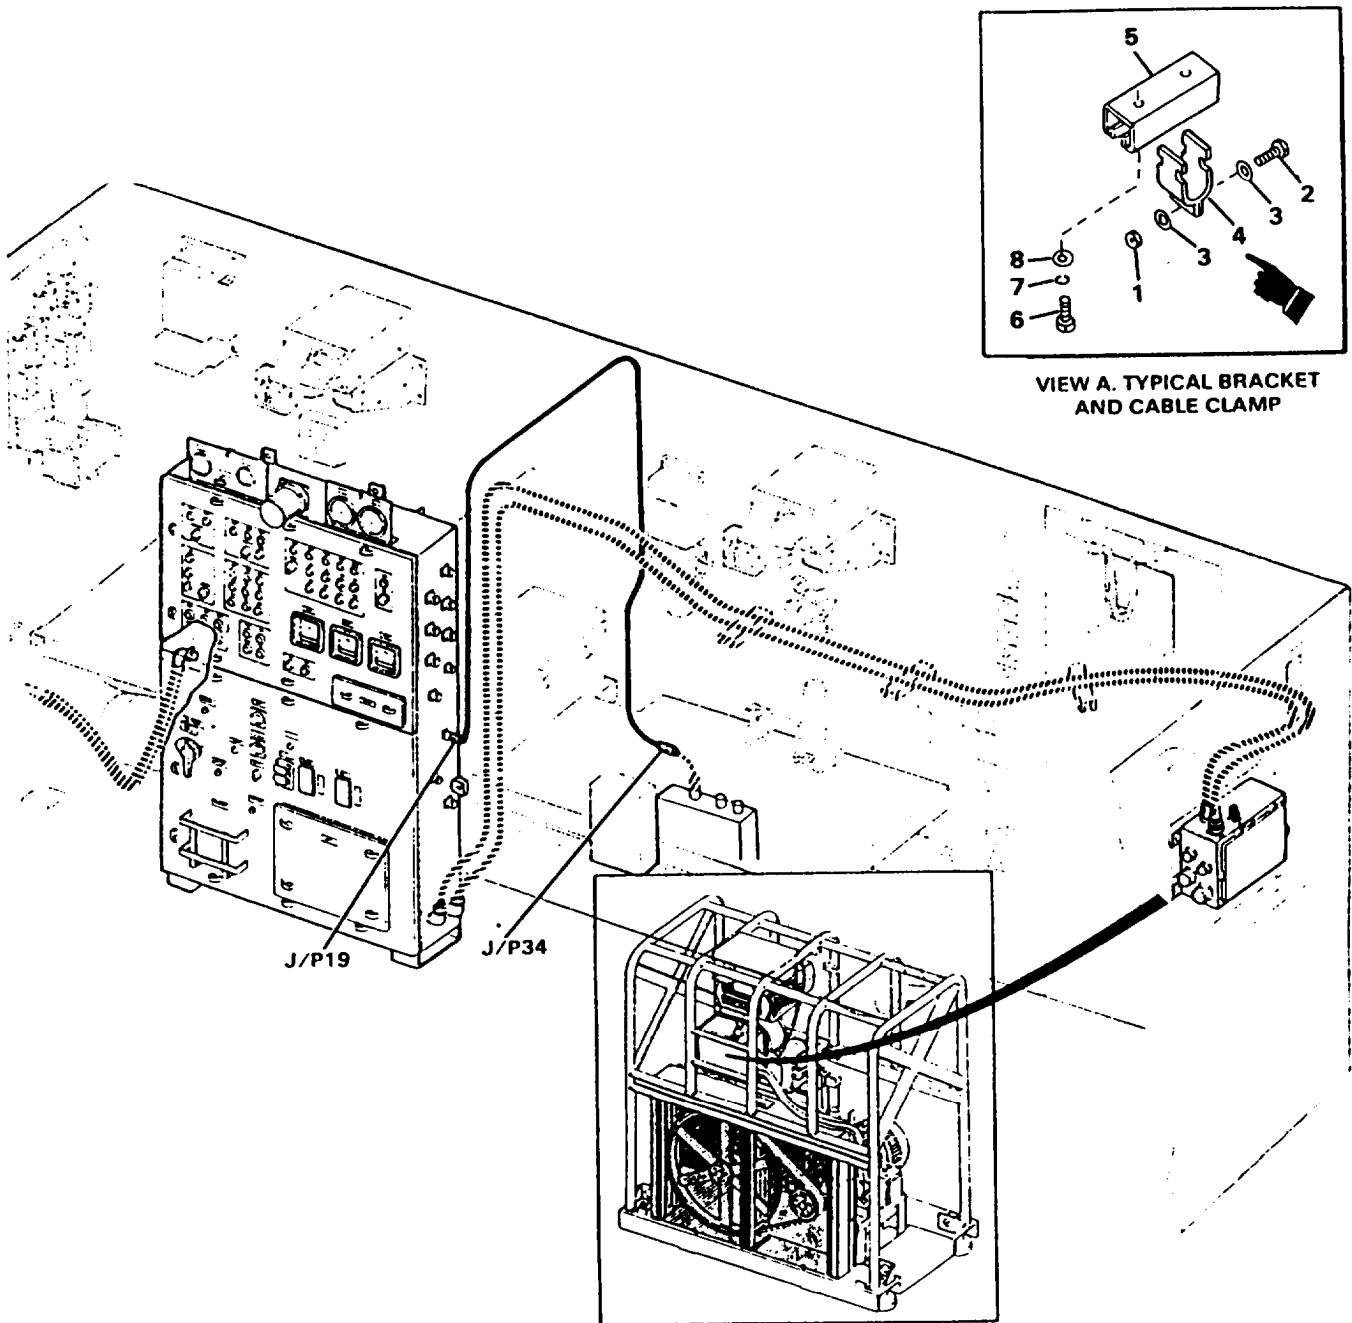

Figure 4-29. Electrical Installation (sheet 2 of 8) Primary Harness, Back Wall, W-33
- g. Remove the desired valve actuator cable as described in the general cable removal procedure above, with the following exception. When pulling cable apart, grasp as shown in Figure 4-29, sheet 5, View C.
h. Refer to Figure 4-29, sheet 8, View D and remove the three utility lights. Each light must be disassembled for removal. Proceed as follows: